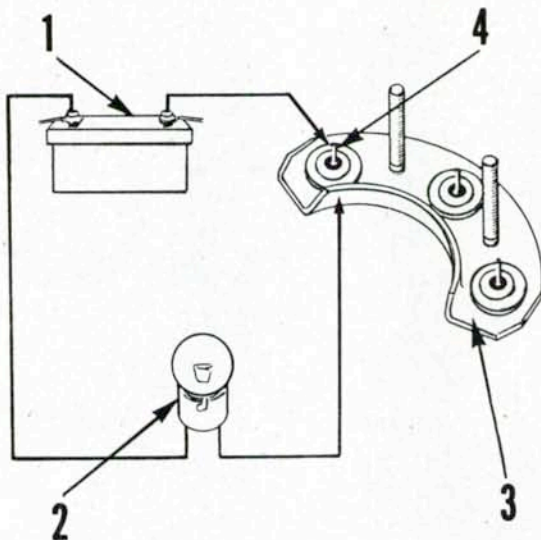

Fig. 151—A 12-volt battery and test light can be used to test rectifier diodes.
ing an ohmmeter or a 12-volt battery and test light as shown in Fig. 151. Touch one test lead to diode connector pin (4) and the other lead to the heat sink (3), then reverse the test lead connections. The test light should come on during one half of the test only. If light does not come on or if it comes on with test leads in both positions, the diode is faulty. All diodes in the heat sink must test alike. Renew rectifier if any diode is defective.